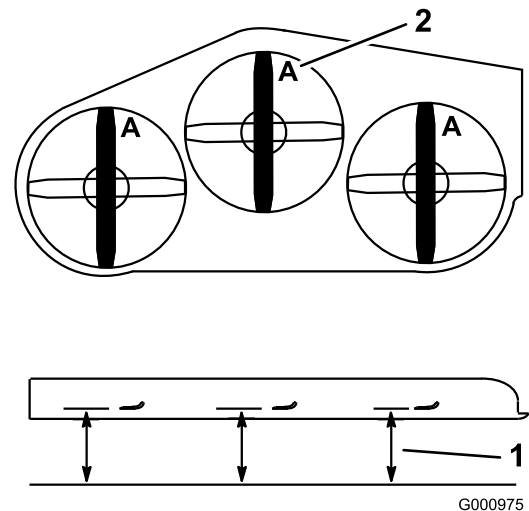

Figure 76
2. Measure from a level surface to the cutting edge, position A, of the blades (Figure 76).